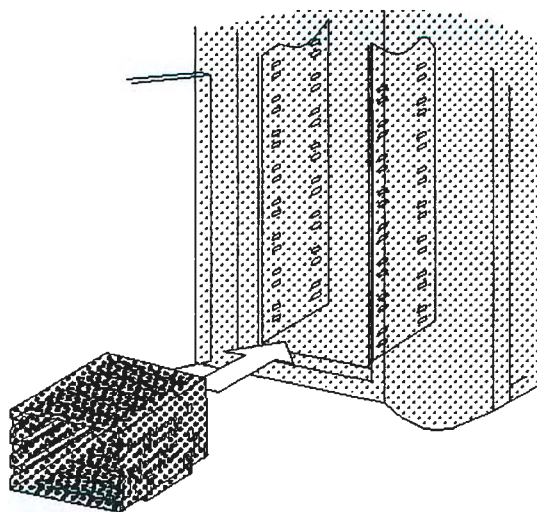

Figure 7: Slide the Cage into the Chassis
3. Slide the drive cage into the drive bracket as shown in Figure 7.